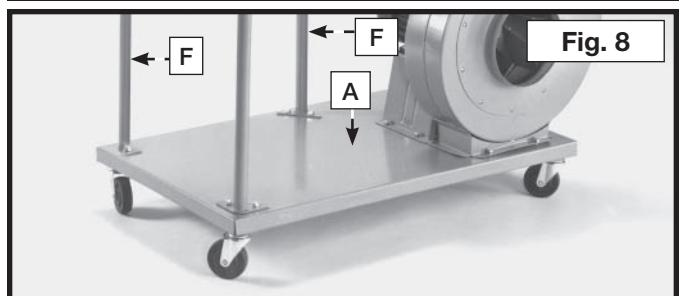

Fig. 8
- Assemble the remaining drum supports (F) Fig. 8, to base (A) as shown.